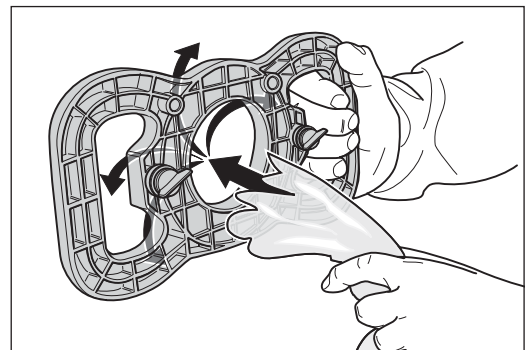

Fig. 24 Insert the waste bag into the emptying fixture.
- 7 Hold the handle of the emptying fixture and insert a waste bag from the ribbed side through the opening in the center of the fixture (fig. 24).